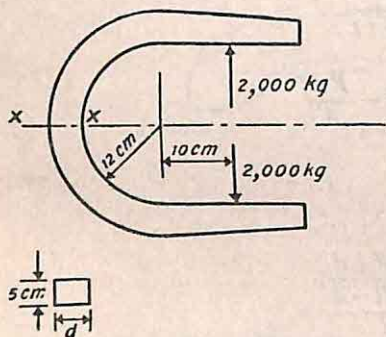

Fig. 31
6. A frame of rectangular section is subjected to a load of 2,000 kg as shown in Fig. 31.